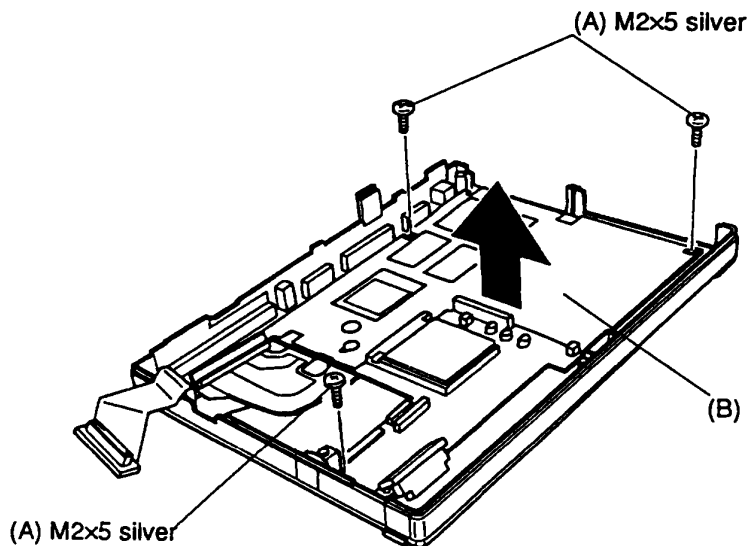

Figure 4-25 Removing the system board
3. Remove the three (M2x5 silver) screws (A) securing the system board to the bottom cover (Figure 4-25).
4. Gently lift the I/O connector panel to dislodge the system board from the three guide pins on the base assembly (Figure 4-25).
5. Gently lift the system board (B) up and slide it toward the front of the computer to release the ports from the base assembly and lift the system board out of the computer.
4. Secure the system board in place with the three (M2x5) screws (Figure 4-25).